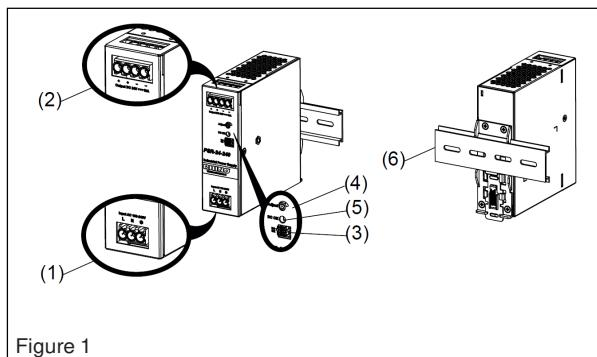

Figure 1
2. Device description (Fig. 1)
4.1. Input connection (Fig. 1, Fig. 6)
Use L, N and PE connections of input terminal connector (see Fig. 1 (1)) to establish the 100-240 VAC connection. The device has an internal fuse. The unit is tested and approved with branch circuit protective device up to 20A.
4.2. Output Connection (Fig. 1 (2))
Use the "+" and "-" screw connections to establish the 24 VDC connection. The output provides 24 VDC. The output voltage can be adjusted from 24 to 28 VDC on the potentiometer. The green LED DC OK displays correct function of the output (Fig. 1 (5)). The device has a short circuit and overload protection and an over voltage protection limited to < 34 VDC.